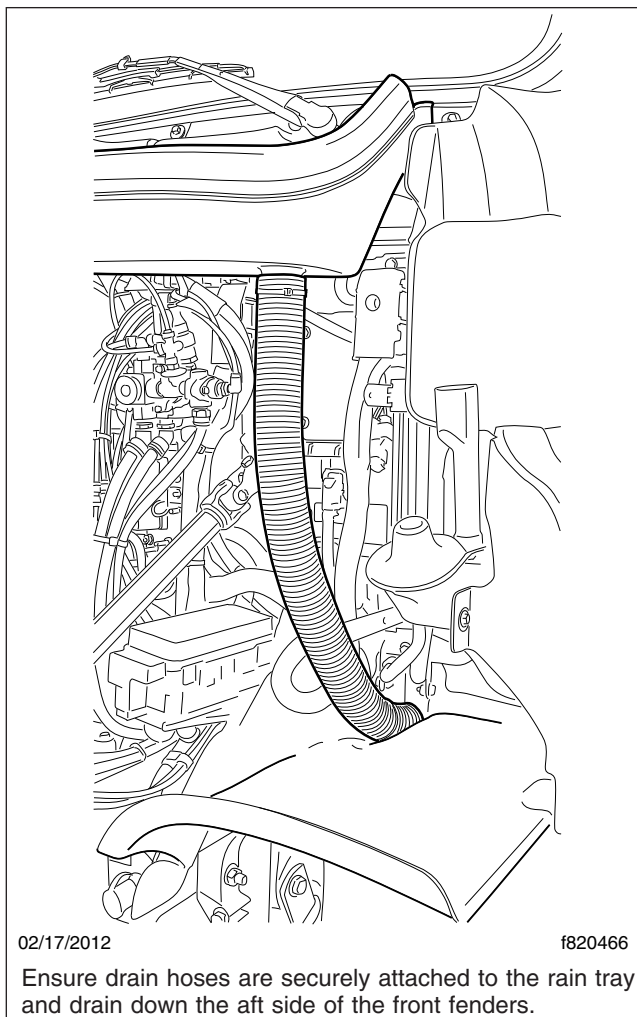

Fig. 21.14, Drain Hose
- 3.3 Inspect the drain hoses installed on the rain tray. Both hoses should be securely attached to the rain tray and direct water down the aft side of the front fenders. See **Fig. 21.14**.